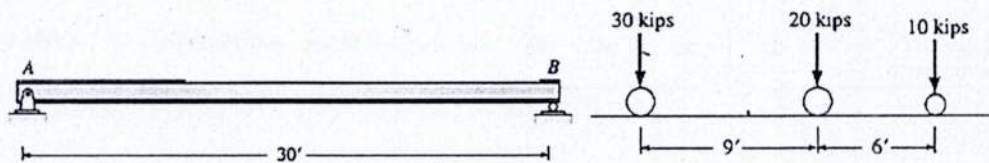

Figure: 12
- (b) Determine the absolute maximum moment produced in a simply supported beam with a span of 30 ft by the set of loads shown in Figure 12. 04